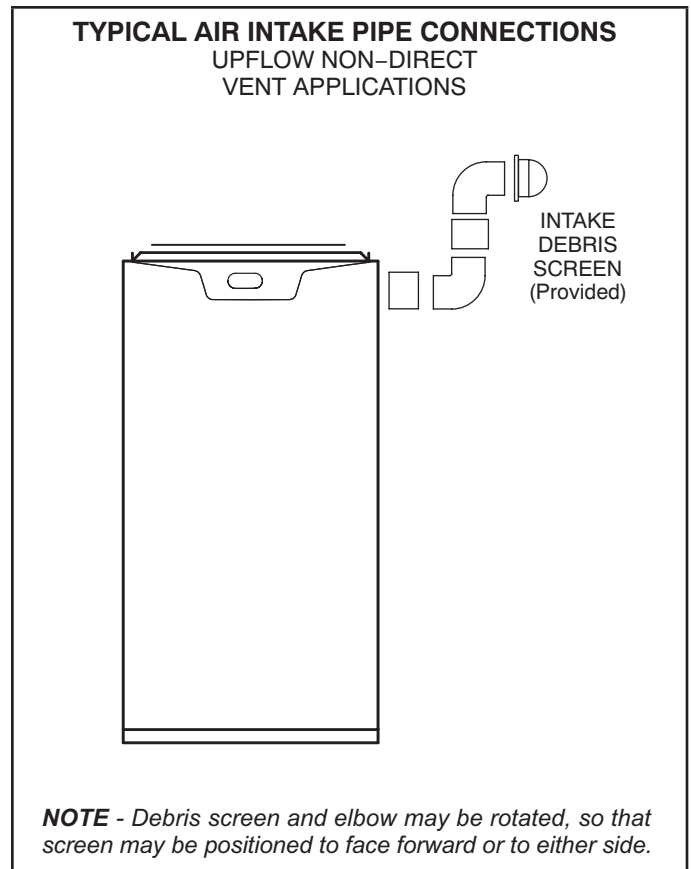

FIGURE 27
- 1 - Use field-provided materials and the factory-provided air intake screen to route the intake piping as shown in FIGURE 27 or FIGURE 28. Maintain a minimum clearance of 3" (76mm) around the air intake opening. The air intake opening (with the protective screen) should always be directed forward or to either side in the upflow position, and either straight out or downward in the horizontal position. The air intake piping must not terminate too close to the flooring or a platform. Ensure that the intake air inlet will not be obstructed by loose insulation or other items that may clog the debris screen.